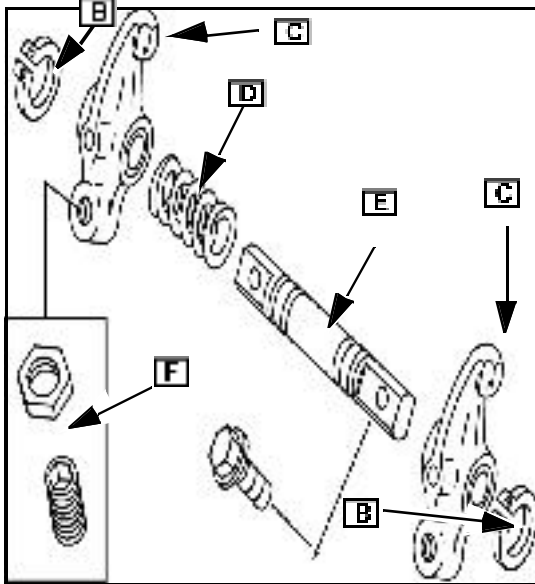

Fig. 4
4. Remove either snap ring ([B] Fig. 4).
5. Remove rocker arms (C) and spring (D) from rocker shaft (E).
6. Remove valve adjusting screw and nut ([F] Fig. 4) from rocker arm.